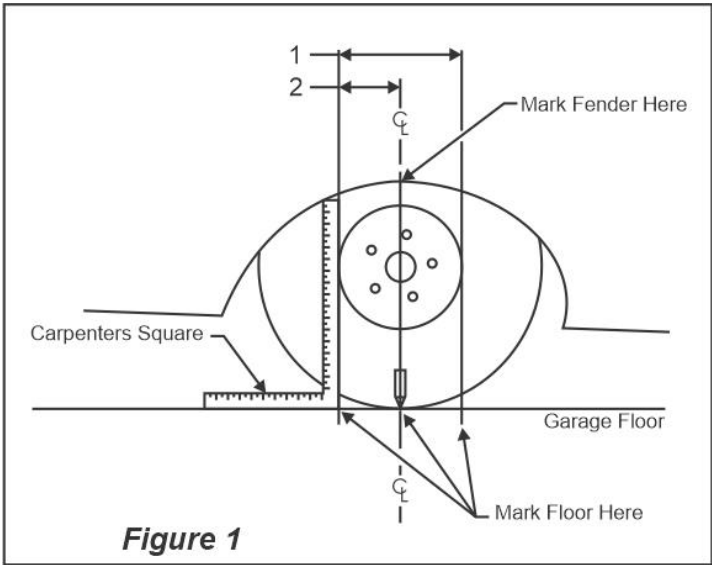

Figure 1
1...Measure from the front of the stock rocker panels to the center of the front wheels and write this measurement down. Using a carpenter's square or plumb bob, you can also find the center of the existing hub and mark the center on the floor. This will help you locate the front wheelbase for the strut jig (C/E 6025) later, if used. **See Figure 1.**